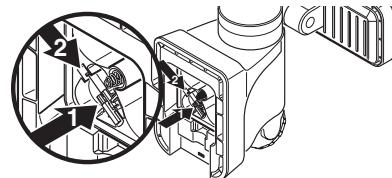

Figure 5
- Gently press down on the wiring harness as shown by arrow 1 (see Figure 5).
- Slide the male connector into the female connector as shown in arrow 2 (see Figure 5).